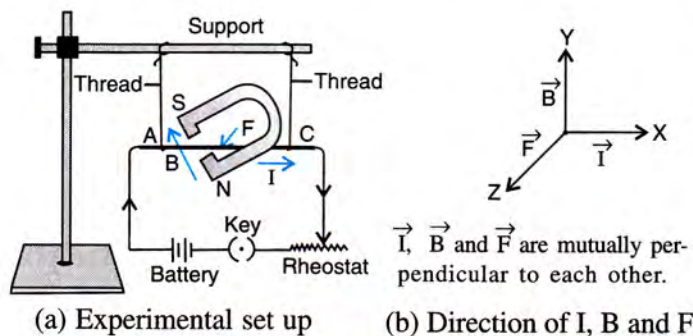

Fig. 10.22 Force on a current carrying conductor
Experiment : Fig. 10.22(a) shows a thick copper wire AC suspended at its ends A and C from a support by means of threads. A magnetic
field B is applied by keeping the wire AC in between the poles N and S of a horse shoe magnet, with length AC of wire normal to the magnetic field lines of the magnet. Between the ends A and C of the wire, a rheostat, key and battery are connected. In Fig. 10.22, the magnetic field B is in the plane of paper in upward direction (*i.e.*, in Y direction) and the wire also lies in the plane of paper with its length AC in X direction.
- (1) When *no* current flows in the wire, *no* force acts on the wire and the wire does not move.
- (2) When current I is passed in the wire in direction from A to C (*i.e.*, in X direction), a force F acts on the wire in a direction perpendicular to both the direction of current I and the direction of magnetic field B , as shown in Fig. 10.22 (b). Due to the force F , the conductor begins to move normal to the plane of paper in outward direction (*i.e.*, in Z direction).
- (3) If the direction of current through the wire is reversed by interchanging the terminals of the battery, the direction of force (*i.e.*, the direction of movement of the wire) is also reversed *i.e.*, now it moves normal to the plane of paper in inward direction (or in $-Z$ direction).
- (4) On reversing the direction of magnetic field (*i.e.*, on reversing the polarities N and S of the horse shoe magnet), the direction of force (*i.e.*, the direction of movement